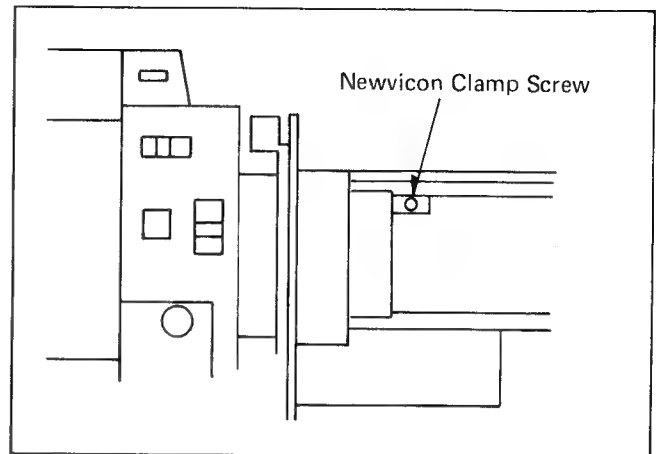

Fig. 18
5. Loosen the newvicon clamp screw on the deflection yoke assembly as shown in Fig. 18.